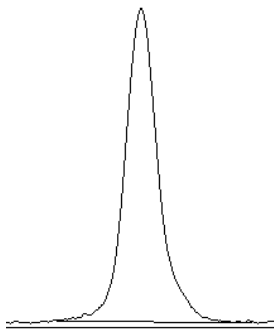

Figure 16. The peak from Figure 15 is shown with a line drawn across the base of the peak to enclose the area of the peak.
11. Choose the **Straight Line** selection tool from the ImageJ toolbar. For each peak you want to analyze in the profile plot, draw a line across the base of the peak to enclose the peak (Figure 16). This step requires some subjective judgment on your part to decide where the peak ends and the background noise begins.